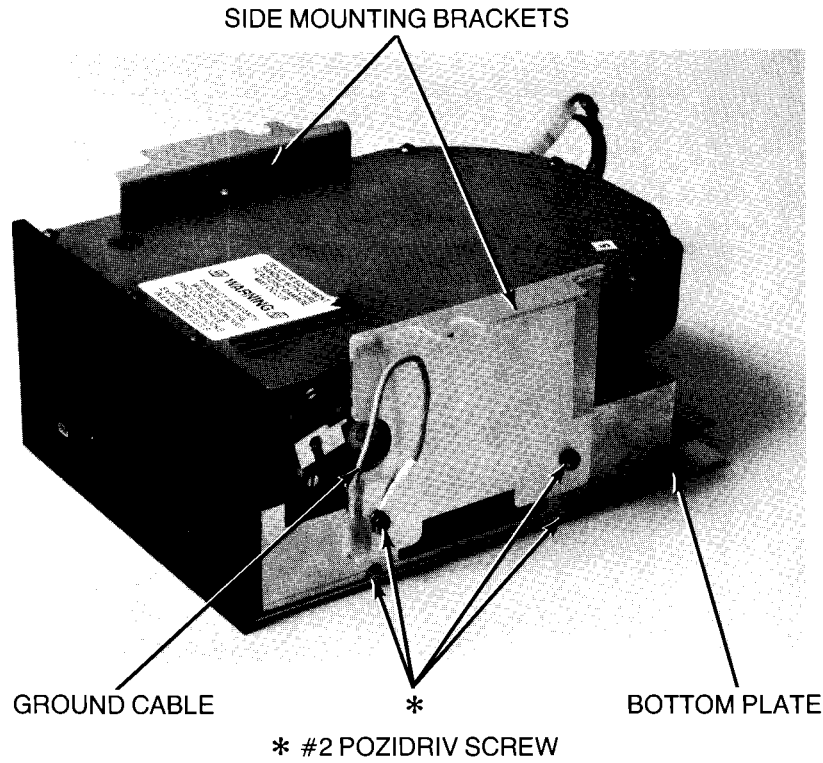
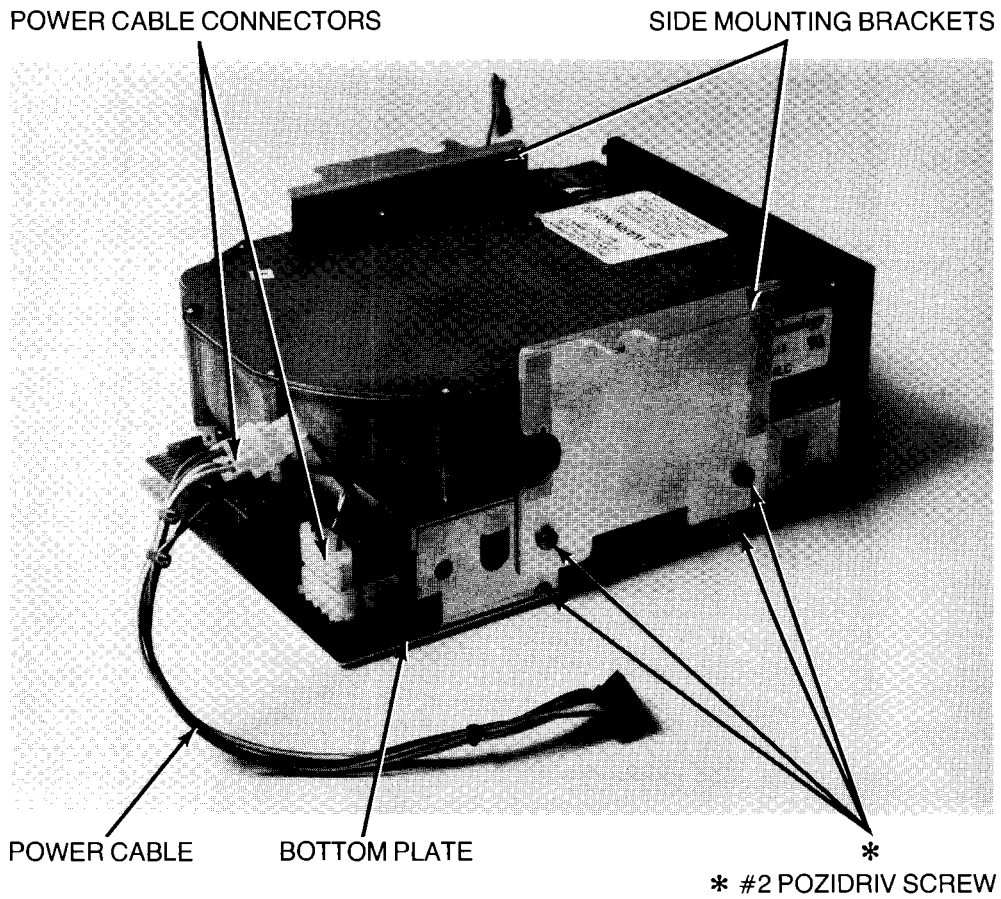

Figure 4-55. Disassembling Fixed Disc Drive, View 1
Figure 4-56. Disassembling Fixed Disc Drive, View 2
5. Remove side mounting brackets and attached ground cable by removing the two #2 Pozidriv screws that attach each bracket to the drive (Figures 4-55 and 4-56). Remove bottom plate by removing the four #2 Pozidriv screws that attach plate to drive. Remove power cable by disconnecting both connectors (Figure 4-56). Retain brackets, ground cable, bottom plate, power cable, and attaching screws for installation on the replacement drive.